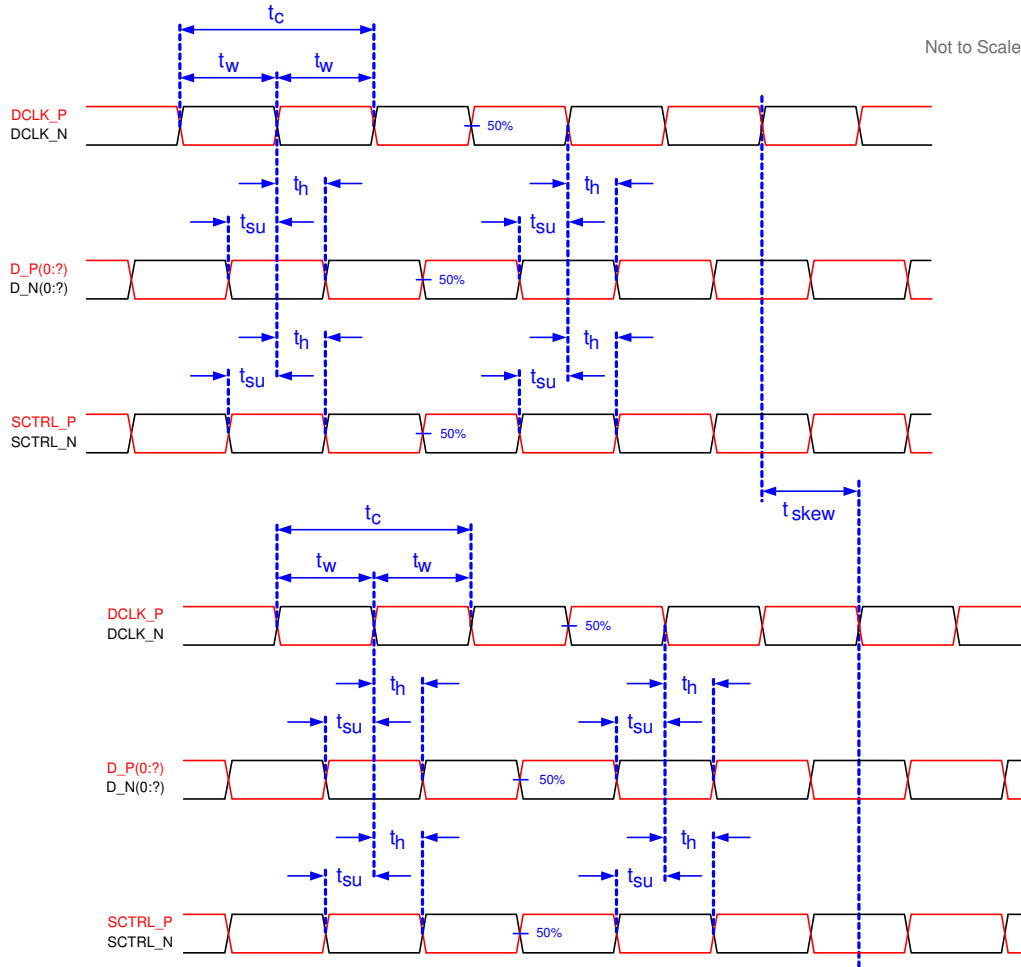

Figure 6-6. Timing Requirements
- (7) See LVDS Timing Requirements in Section 6.8 and Figure 6-6.
- (1) See Figure 6-6 for timing requirements for LVDS.
- (2) Channel A (Bus A) includes the following LVDS pairs: DCLK_AN and DCLK_AP, SCTRL_AN and SCTRL_AP, D_AN(15:0) and D_AP(15:0).
- (3) Channel B (Bus B) includes the following LVDS pairs: DCLK_BN and DCLK_BP, SCTRL_BN and SCTRL_BP, D_BN(15:0) and D_BP(15:0).